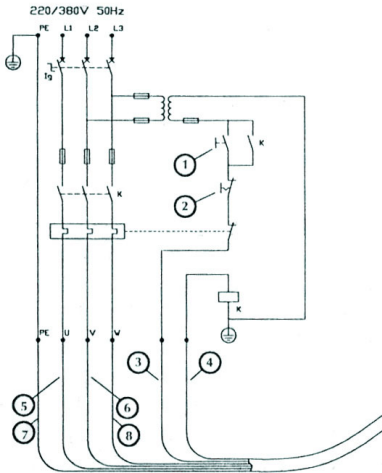

Fig.13
- b) The three-phase version of the CT pumps features a 3-wire + earth power cord with the addition of two white and grey wires with a smaller cross-section connected to the thermal overload protector inside the motor (fig.13).
### 13 Connection scheme 3-phase motor (Fig. 13)